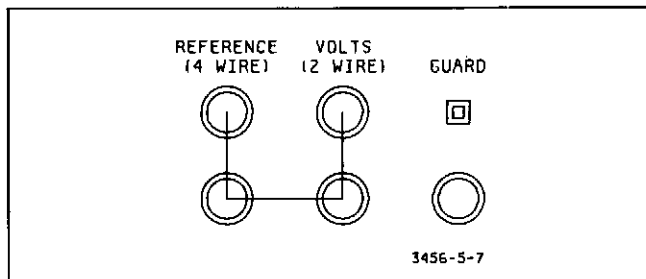

Figure 5-7. 4-Wire Ohms Short.
b. Short the VOLTS and RATIO REF (4WR Ω SENSE) terminals as shown in Figure 5-7.